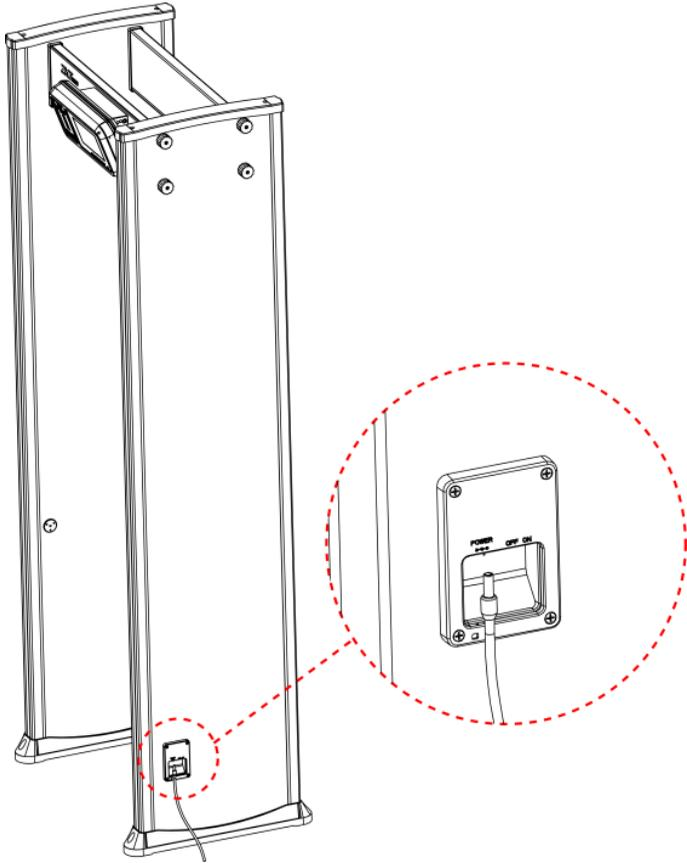

Figure 3-10
Step 10: Lift and move the security gate to the designated working position, connect the side power cord, and press the power switch to enter the working state, as shown in the figure 3-10 below.